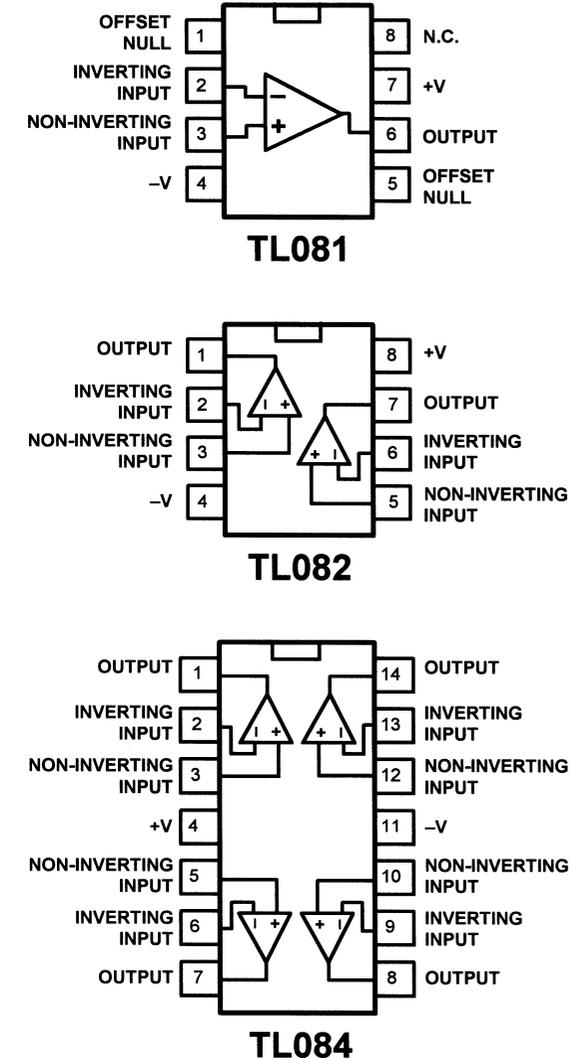

Figure 8.16 Single, dual and quad integrated circuit DIL packages
Operational amplifiers are available packaged singly, in pairs (dual types), or in fours (quad types). The majority of operational amplifiers are supplied in dual-in-line (DIL) packages but TO5 packages are also used. The 081, for example, is a single general-purpose BIFET operational amplifier housed in an 8-pin DIL package. This device is also available in dual (082) and quad (084) forms (see Fig. 8.16). Table 8.4 summarizes the data for some common operational amplifier types.